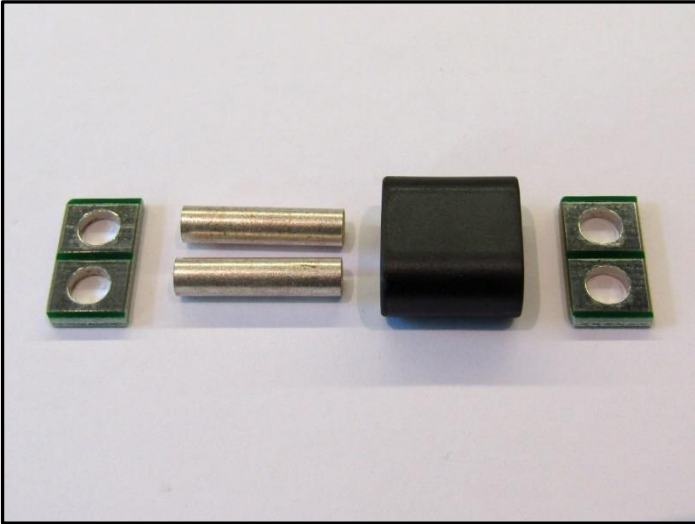

Figure 5a: Transformer parts.
10. Make the input transformer as shown in figures 5a – 5d.